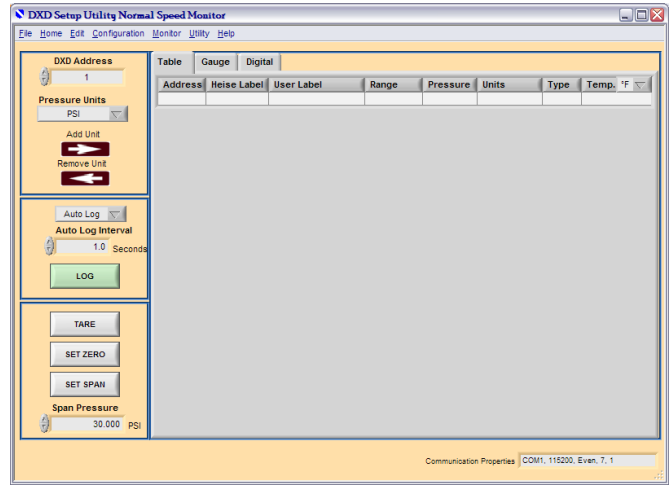

Figure 11
The normal speed monitor window, shown in Figure 11, allows monitoring of pressure and temperature of one or more DXD pressure transducer(s). Access this window via menu selection Monitor>>Normal Speed. The window is broken down into four areas: selection of pressure transducer and pressure units, logging, calibration, and monitor. The rate of retrieval of new values from the transducer(s) is dependent on how many transducers have been selected for monitoring and how many processes are currently running on the computer and consuming resources. The table is updated one transducer at a time. Pressure can also be displayed on a dial gauge or digital indicator as described in section 3.3.2. The current communication properties are shown at the bottom right of the window. They are shown in order of communication port (COM1), baud rate (115200), parity (Even), number of data bits (7), and number of stop bits (1).